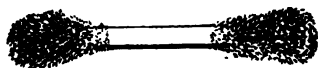

FIG. 172.—Iron filings attracted to the poles of a magnet.
**200. Magnetic Poles.**—If a magnet is placed in iron filings and removed, the filings will be found to cling strongly at places near the ends of the magnet, but for a portion of its length near the middle no attraction is found. (See Fig. 172.) These places of greatest attraction on a magnet are called *poles*. If a bar magnet is suspended so as to swing freely about a vertical axis the magnetic pole at the end pointing north is called the *north-seeking* pole; at the other end, is the *south-seeking* pole. In most places the needle does not point to the true north, but somewhat to the east or west of north. The direction taken by a magnetic needle is parallel to the *magnetic meridian*.